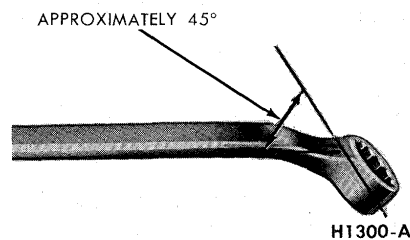

FIG. 1—Wrench for Bleeding Brake Hydraulic System
1. Position a suitable $\frac{3}{8}$ -inch box wrench (Fig. 1) on the bleeder fitting on the right rear brake wheel cylinder. Attach a rubber drain tube to the bleeder fitting. The end of the tube should fit snugly around the bleeder fitting.
3. Position a $\frac{3}{8}$ -inch box wrench (Fig. 1) on the bleeder fitting on the right rear brake wheel cylinder. Attach a bleeder tube to the bleeder fitting. **The end of the tube should fit snugly around the bleeder fitting.**